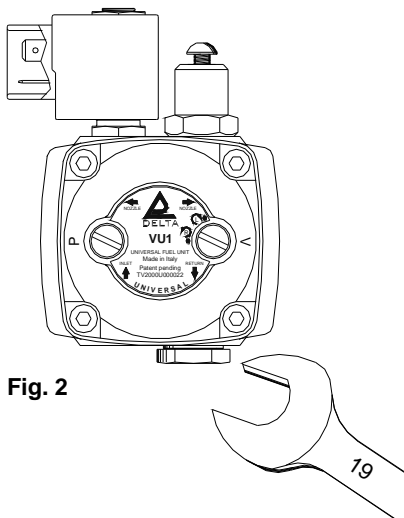

Fig. 2
- Fit a 1/4" plug into the return port (Fig. 2).